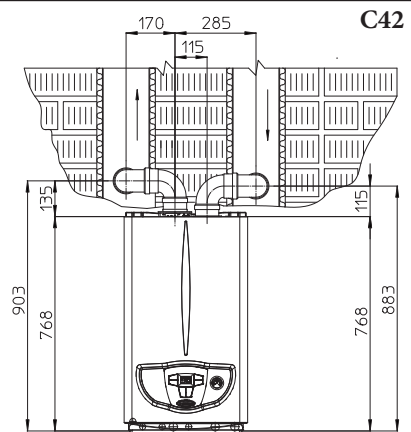

Fig. 1-26
- Installation clearances. Figure 1-26 gives the min. installation space dimensions of the Ø 80/80 separator terminal kit in limited conditions.